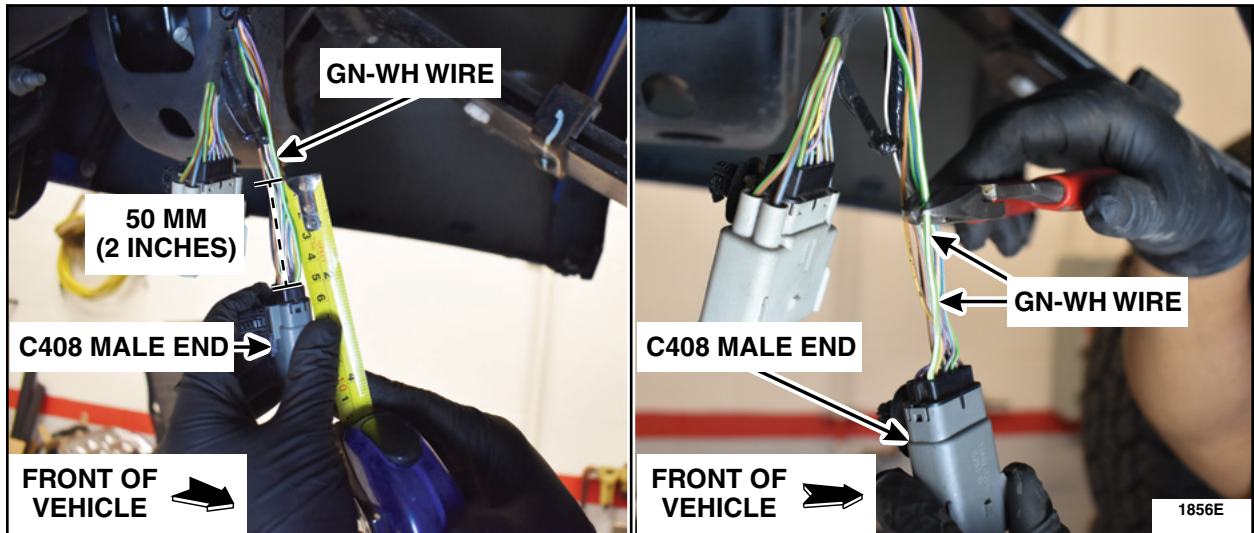

FIGURE 6
9. Measure 50 mm (2 in) from the back side of the male end of C408 and cut the Green-White (GN-WH) wire (cavity 1) at the 50 mm (2 in) measurement. See Figure 6.